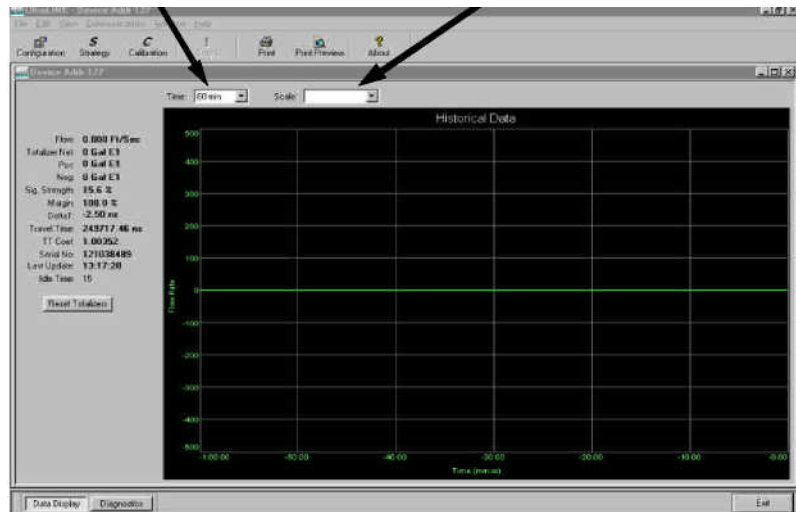

Figure 3.2
2. Double-click on the **UltraLink** icon. The first screen is the "RUN-mode" screen, See **Figure 3.2**, which contains real-time information regarding flow rate, totalizer accumulation, system signal strength, diagnostic data and the flow meter's serial number. The indicator in the lower right-hand corner will
- **Vol. Correction Sig. Str. Limit** is a feature used to provide volumetric compensation for gas bubbles that can present in liquid systems. The HTTF measures the velocity of the liquid in the pipe and converts that velocity to volume by multiplying the velocity by the cross-sectional area of the pipe. If there are gas bubbles within the liquid, the gas is displacing some of the liquid and errors can occur. When Vol. Correction Sig. Str. Limit is set to zero, the compensation function is not operational. To use the feature, enter the maximum Signal Strength observed on the flow meter after installation. The maximum signal strength should occur with the pipe completely full of liquid and the flow stopped. Signal Strength can be observed on the UltraLink Data Screen. See **Figure 3.2**.